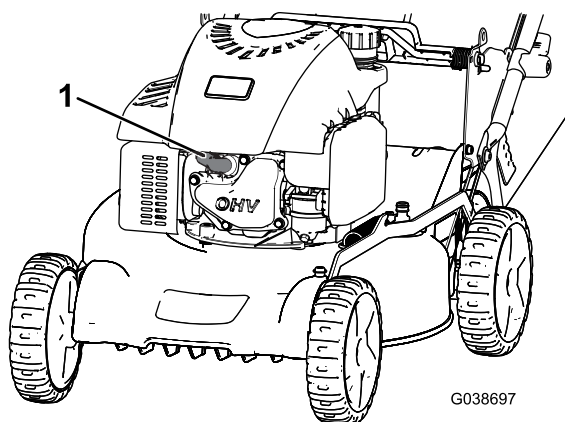

Figure 26
- Disconnect the spark-plug wire from the spark plug (Figure 26).
2. Disconnect the wire from the spark plug (Figure 26).